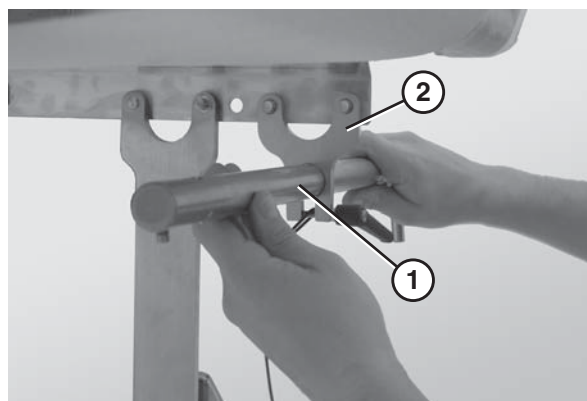

Figure 10
2. Slide the notched end of the scraper shaft (Figure 10, item 1) through the adjustment plate (Figure 10, item 2).